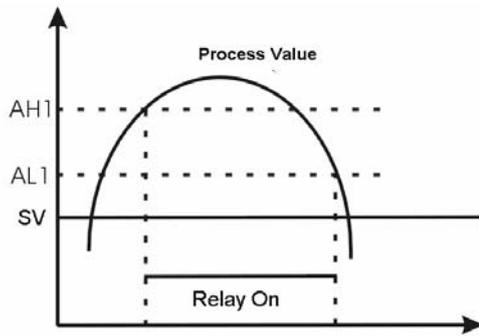

Figure 4
- ① When AH1=AL1, (AH2=AL2) relay is disabled,
- ② AH1 > AL1 (AH2 > AL2) is for absolute high alarm. See fig. 4.